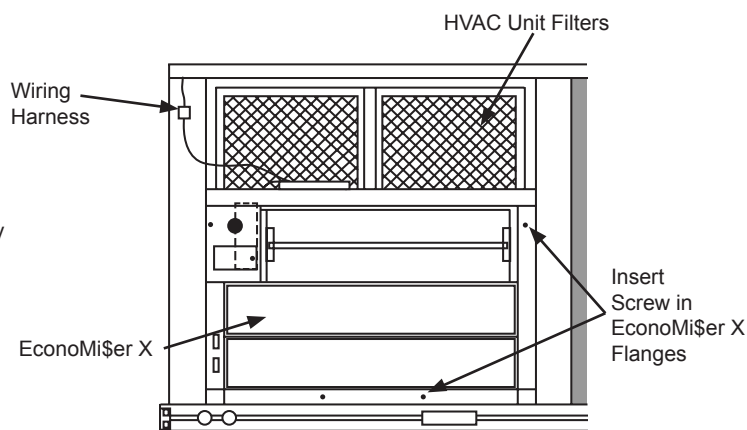
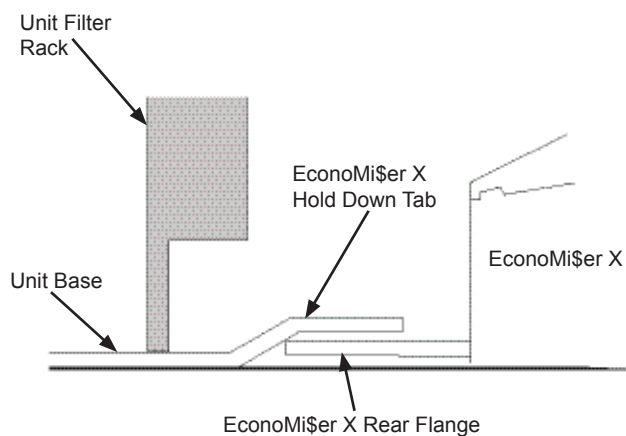

Fig. 5 - EconoMi\$er X Installed in HVAC Unit
Fig. 6 - Rear EconoMi\$er X Flange Installation (Small and Large Cabinet)
7. Slide the EconoMi\$er X assembly into the rooftop unit. (See Fig. 5). On small and large cabinets be sure to engage the rear EconoMi\$er X flange under the tabs in the return-air opening of the unit base. (See Fig. 6)